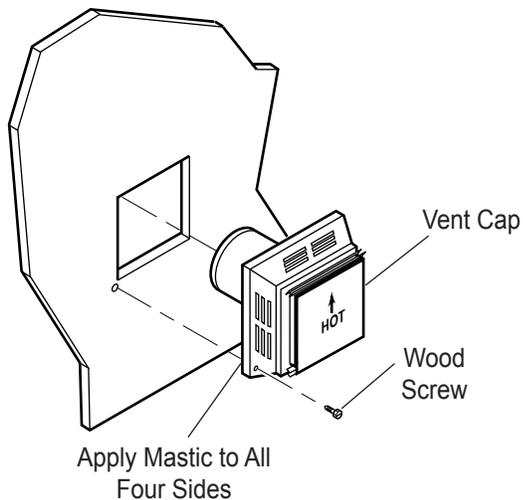

Figure 14 - Installing Horizontal Vent Cap
- Apply a bead of non-hardening mastic around the outside edge of vent cap. Position the vent cap in the center of hole on the exterior wall with the arrow up on the vent cap. Insure proper clearance of 1" to combustibles is maintained. Attach the vent cap with four wood screws supplied. See Figure 14.